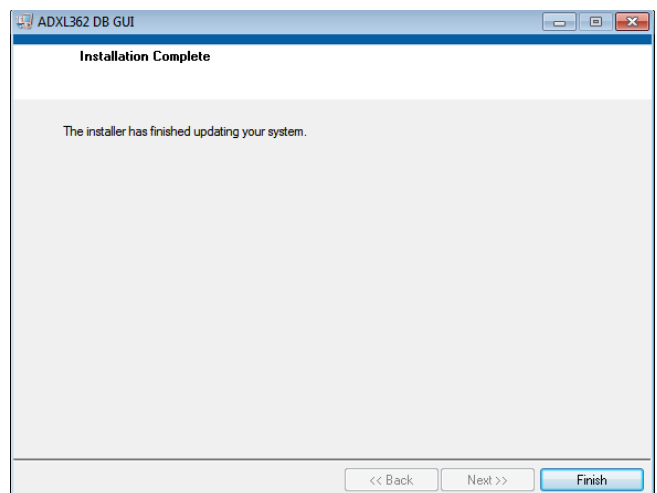

Figure 24. ADXL362 DB GUI Installation Complete
4. To start the installation, click **Next**. The installer completes installation of the software evaluation GUI and all required National Instruments drivers and run-time engines. After the installation is complete, the box shown in Figure 24 is displayed.